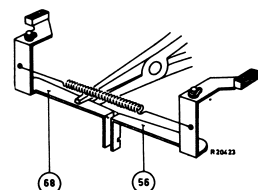

Fig 19
- Both brake brackets should be in a line with each other. See fig. 19.